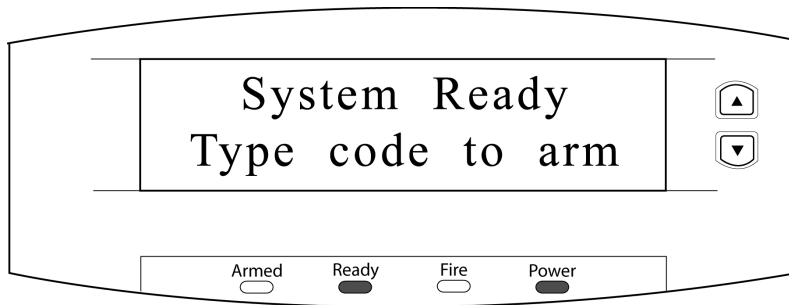

Figure 2: Alarm Panel - System Ready
1. When the alarm control panel is first powered up, the LCD shows the following message (see Figure 2).
8. Select the  key to save the selection and return to the Alarm Panel - Enter Location screen. The alarm panel is now configured to work in connection with the PXL-510. Select the "Exit" button and the LCD displays the System Ready message (see Figure 2 on page 2).